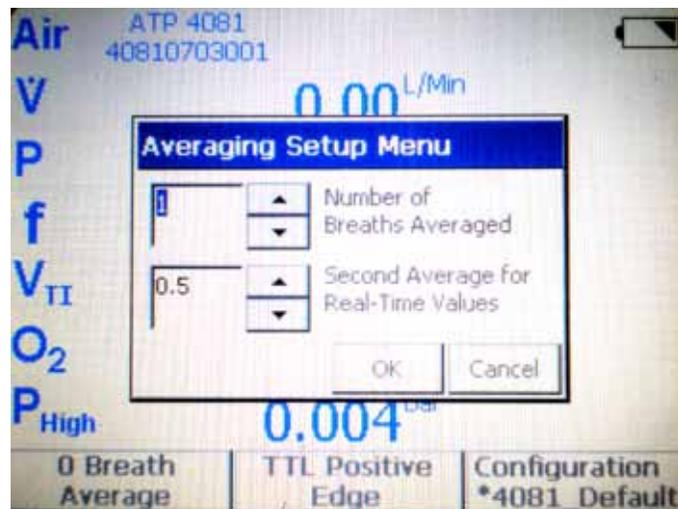

Figure 8-5: Averaging Setup Menu
2. Use the up or down direction arrows to select 1 for Number of Breaths Averaged and 0.5 for Second average for Real-Time Values (refer to Figure 8-5).
3. When the appropriate parameters are selected, touch **OK** (refer to Figure 8-5).